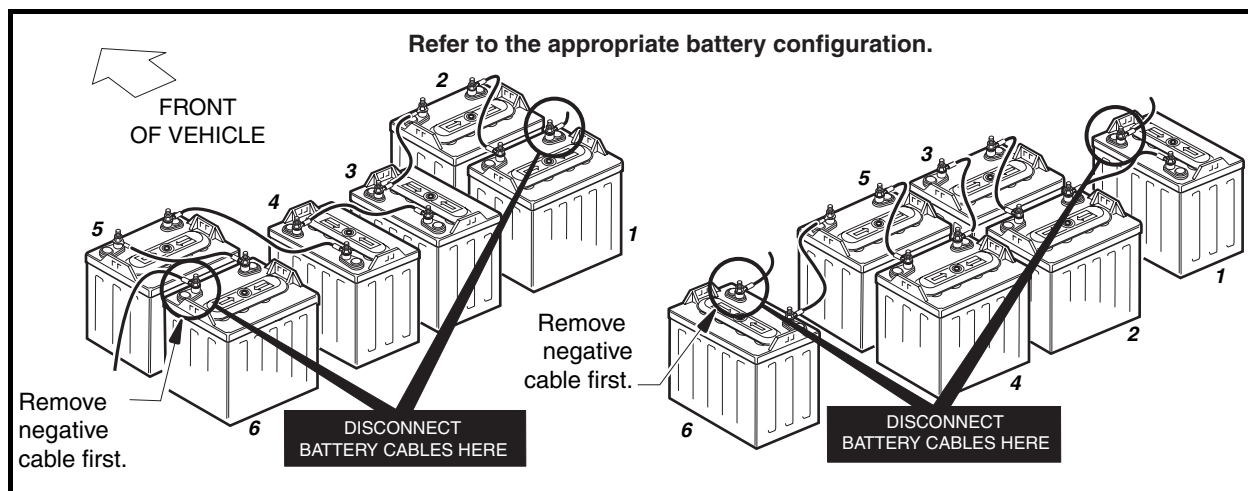

Figure 10-1 Battery Configuration
- **To avoid unintentionally starting the vehicle, disconnect the batteries as shown (Figure 10-1, Page 10-2).**